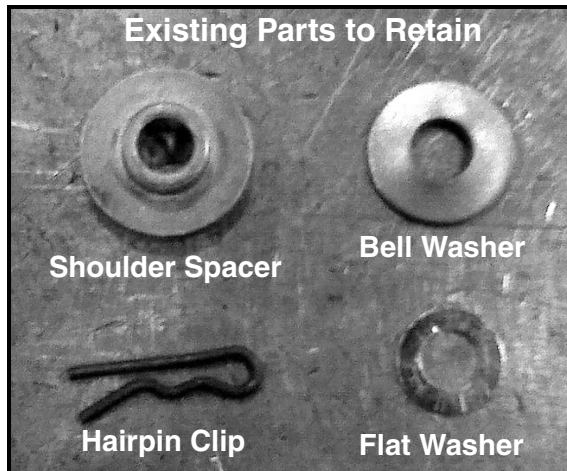

FIGURE 4
10. Remove and discard the shift lever, pivot bolt, lock nut and hex nut retainer bracket. Retain the bell washer and shoulder spacer. See Figure 4 for parts to retain.